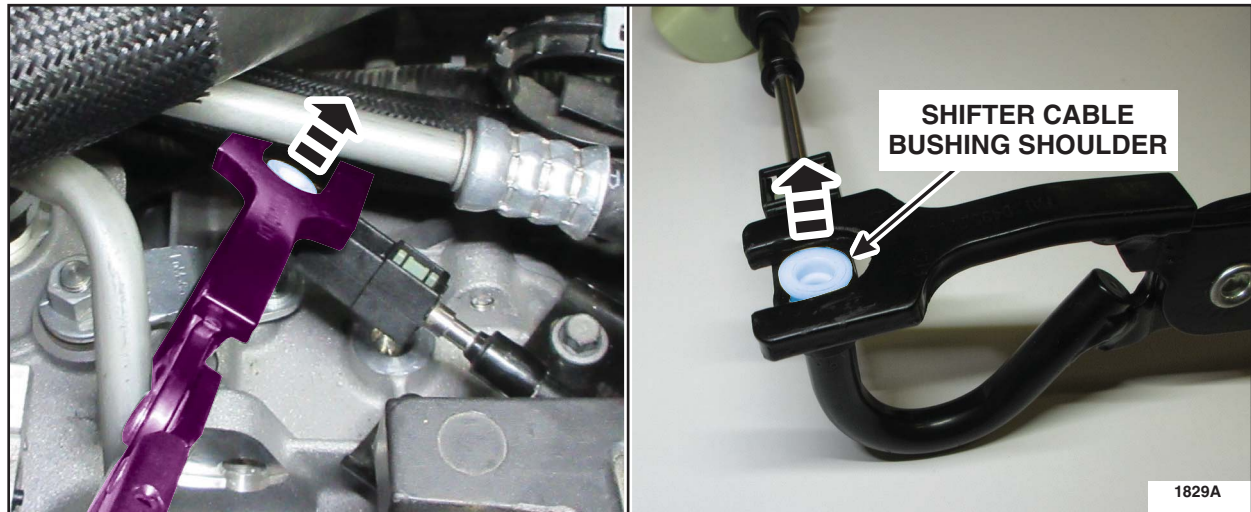

FIGURE 7
- Using a tool such as a Lisle 38350 - Exhaust Hanger Removal plier to press bushing out. By viewing Figure 7 the shoulder of bushing is positioned upward, small end of plier is pressing bushing out. Proceed to Step 9.